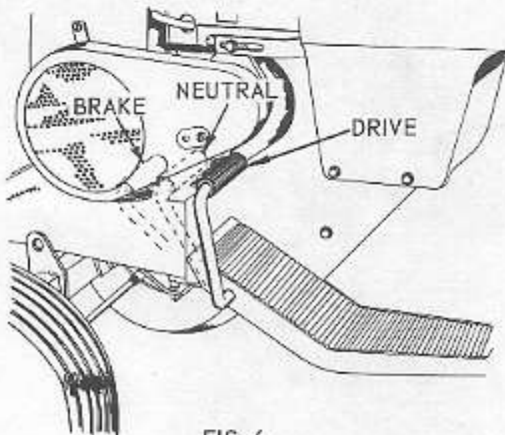
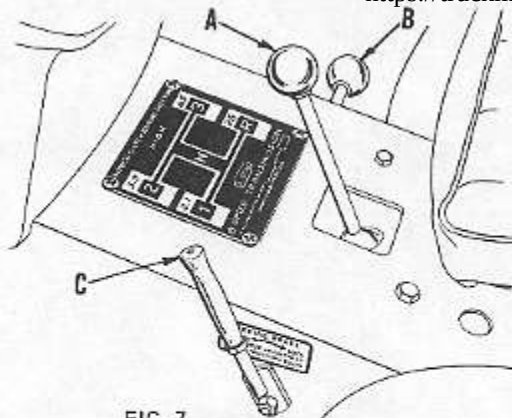

FIG. 6
FIG. 7
2. The transmission (transaxle) gear shift lever (A), is located at front, center of seat.
- a. The gear shift level selects the FORWARD speeds, the NEUTRAL and REVERSE speeds. Refer to Fig. 7.
3. The high-low range (B), is located on R.H. frame side just forward of R.H. rear fender. The high-low range lever has 3 positions, up for high-range, center for neutral, and down for low range. There are two neutral positions in transmission, one on the gear shift lever, and one on the high-low range lever. Both levers must be engaged for tractor to operate. Place gear shift lever in neutral position for starting tractor. Place high-low range lever in neutral for easier pushing of tractor or when tractor is being towed.
4. To engage park brake (C), push foot pedal all the way down, pull backward on park brake lever and release foot pedal. Push lever forward to release brake.
- a. Transmission gear shift lever (A, Fig. 7), is in NEUTRAL.
- b. The high-low range lever (B, Fig. 7), is in NEUTRAL.
3. Depress foot pedal, refer to Fig. 6, to neutral position. THIS IS ESPECIALLY HELPFUL IN COLD WEATHER. Release park brake (C, Fig. 7). Continued on page 8.